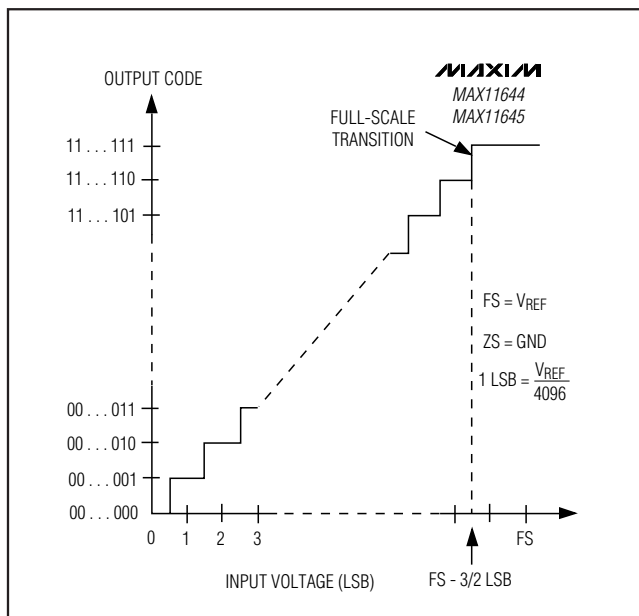

Figure 12. Unipolar Transfer Function
Output data coding for the MAX11644/MAX11645 is binary in unipolar mode and two's complement in bipolar mode with 1 LSB =  $(V_{REF}/2^N)$  where N is the number of bits (12). Code transitions occur halfway between successive-integer LSB values. Figures 12 and 13 show the input/output (I/O) transfer functions for unipolar and bipolar operations, respectively.